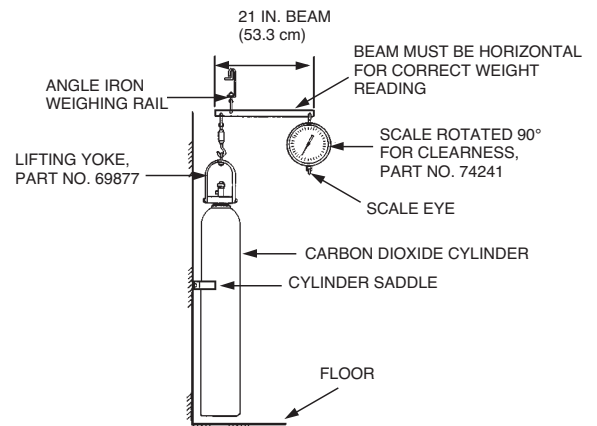

FIGURE 1
- b. Attach the weigh scale, Part No. 74241, to the weigh rail above the cylinder. Thread lifting yoke, Part No. 69877, on cylinder collar threads and lift cylinder from floor. Record weight while cylinder is suspended. See Figure 1.